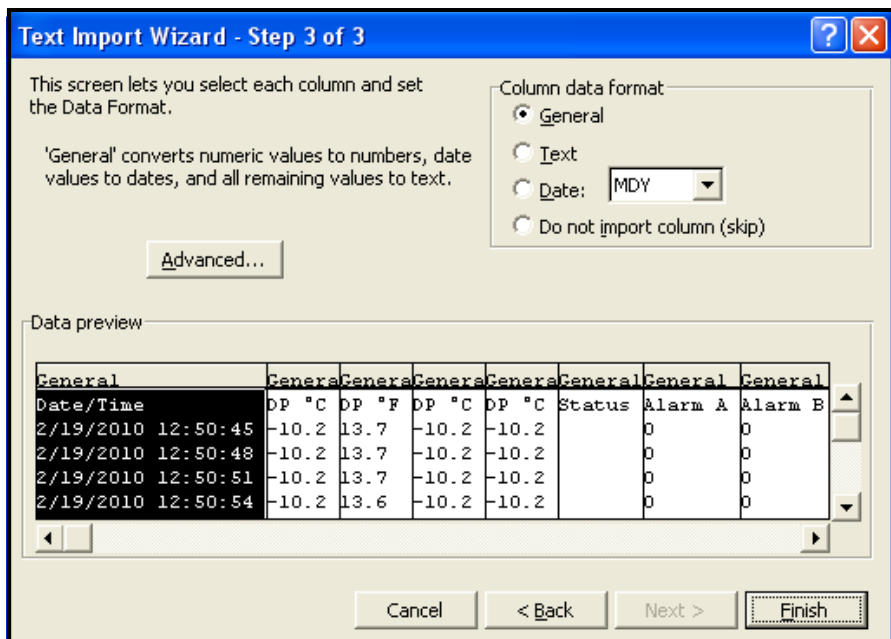

Figure 64: Excel Import Wizard 3
- Set the desired data delimiters, and click on Next >. The following screen appears (see Figure 64 on page 105).
8. Select each column and set the data format for it (see Figure 64).